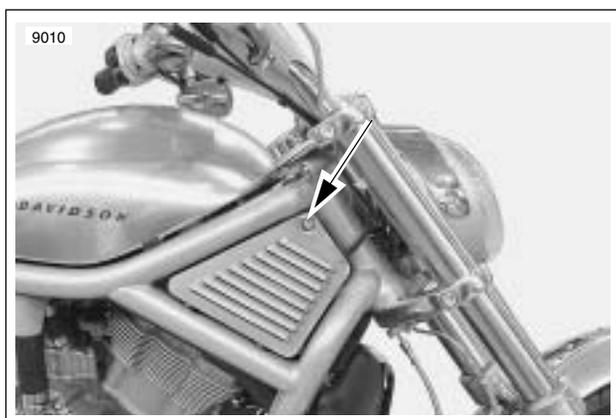

Figure 1-10. Removing Fastener and Cover to Check Coolant Level
1. See Figure 1-10. Remove fastener at upper corner of right side cover and remove cover.